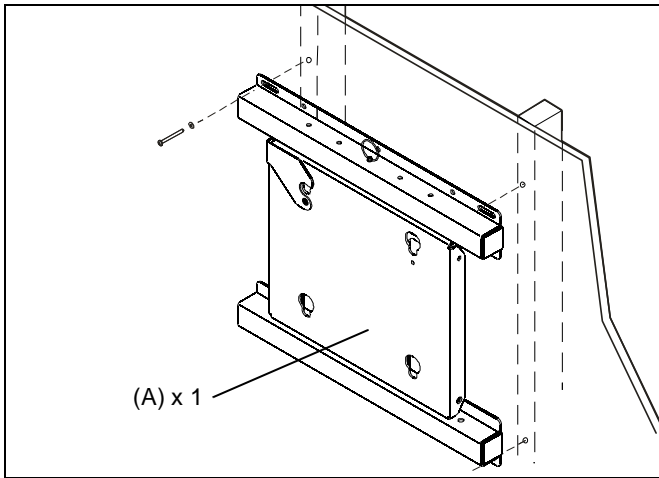

Figure 5
5. Place mount assembly (A) against wall and align mounting holes in mount assembly with pilot holes (See Figure 5).
6. Secure mount (A) to wall studs using four wood screws, and four flat washers.